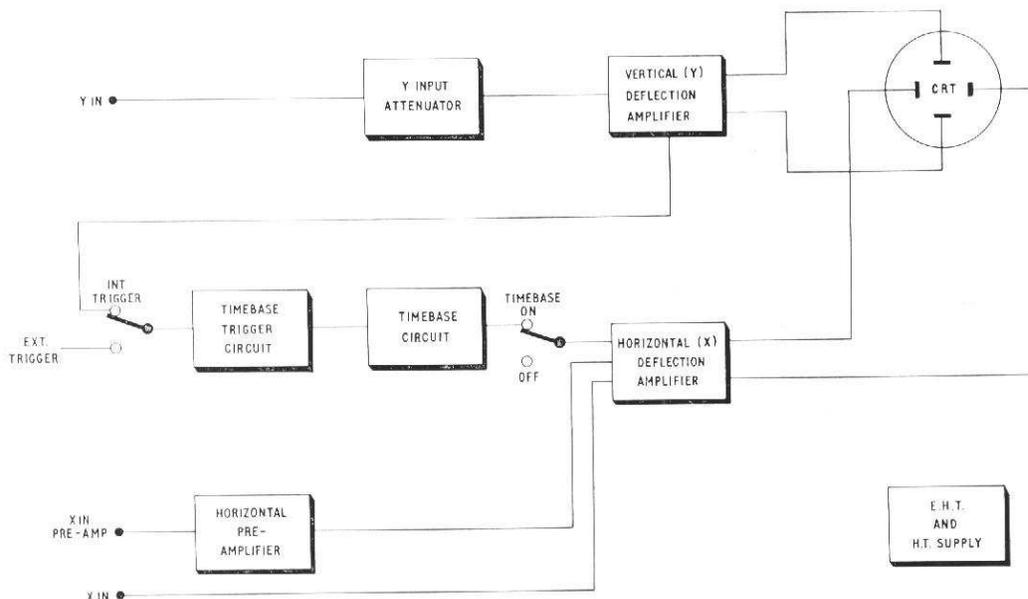

Fig. 2 Functional Diagram
A functional diagram of the oscilloscope is shown in Fig. 2, the full circuit diagram of the instrument is shown in Fig. 7 (Section 6). The oscilloscope comprises seven sections: input attenuator, vertical deflection (Y) amplifier, timebase trigger circuit, time base generator, horizontal (X) amplifier, horizontal (X) pre-amplifier, and the CRT.